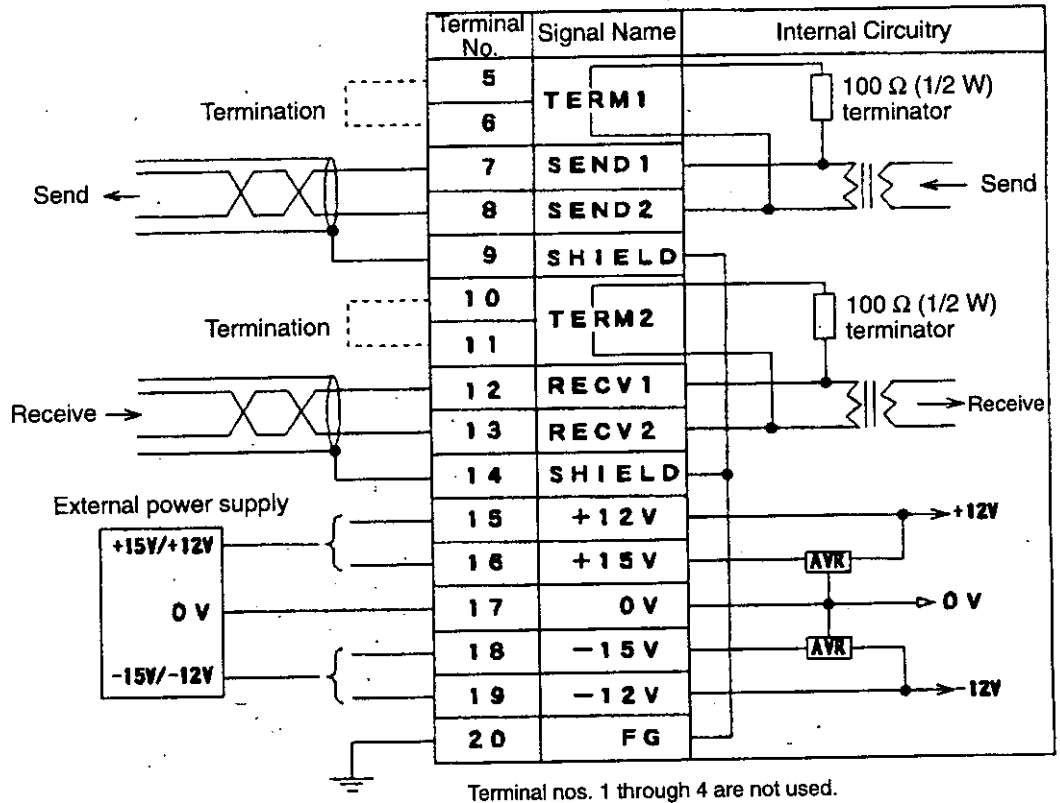

Figure 6.5 Terminal Board Connections
- c) Connect 2-core twisted cable and external power supplies to the terminal board. *Figure 6.5* shows the connecting diagram for the terminal board. The diagram also shows the J2078 internal connections on the terminal board.